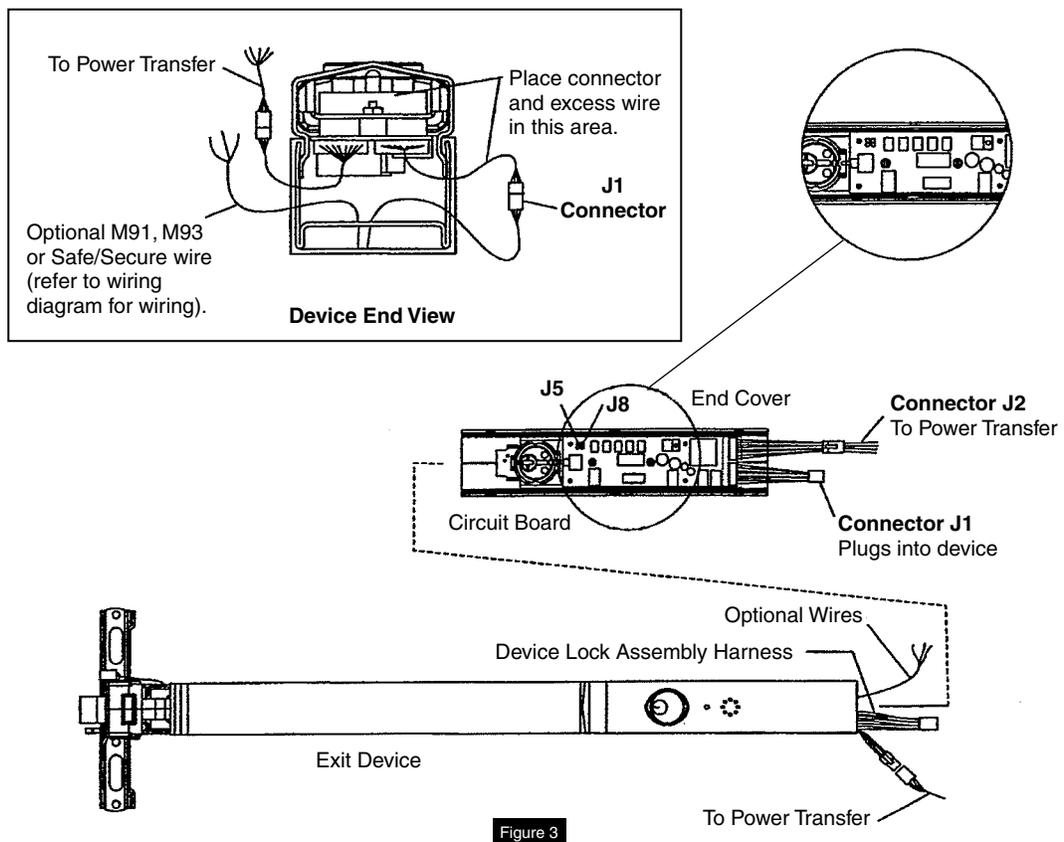

Figure 3
2. Nuisance delay setting is factory preset for three (3) seconds. If immediate initiation of alarm sequence is desired when pushpad is pressed, remove jumper J5. (Figure 3)
3. Reset delay setting is factory set for ten (10) seconds. Remove jumper J8 for 20-second reset.
5. Connect device lock assembly harness to connector J1. Place wire connectors and excess wire between end cover and P.C. board. (Figure 3, Device End View)